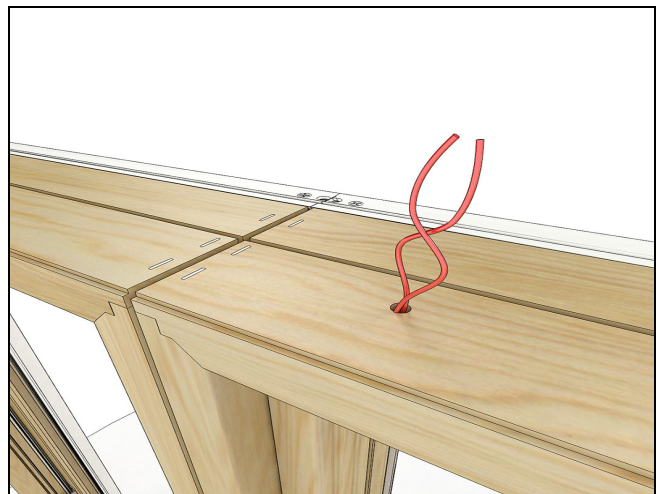

Figure 7
- 2. Fish wire** through the factory provided 1/4" hole located in the head jamb. See Figure 7.